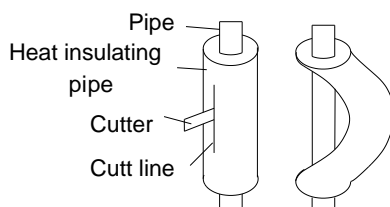

Figure 3-3-3
- (4) When bending the pipe, do not bend it as is. The pipe will be collapsed. In this case, cut the heat insulating pipe with a sharp cutter as shown in Figure 3-3-3, and bend it after exposing the pipe. After bending the pipe as you want, be sure to put the heat insulating pipe back on the pipe, and secure it with tape.